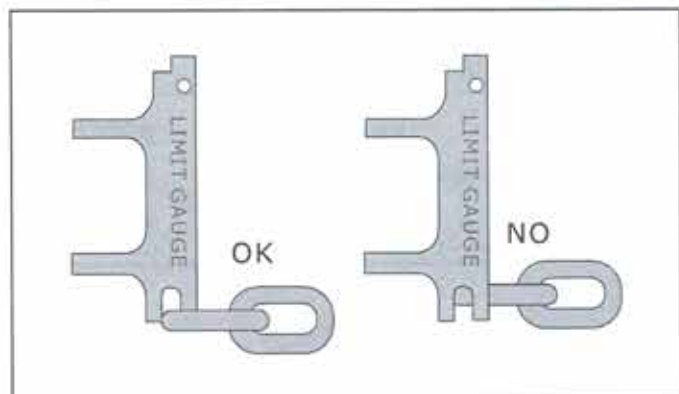

Fig.6.4 Measure of diameter
- Measure the diameter of each link as shown in Fig 6.4 and replace the entire length of chain if the diameter is reduced by more than 10%